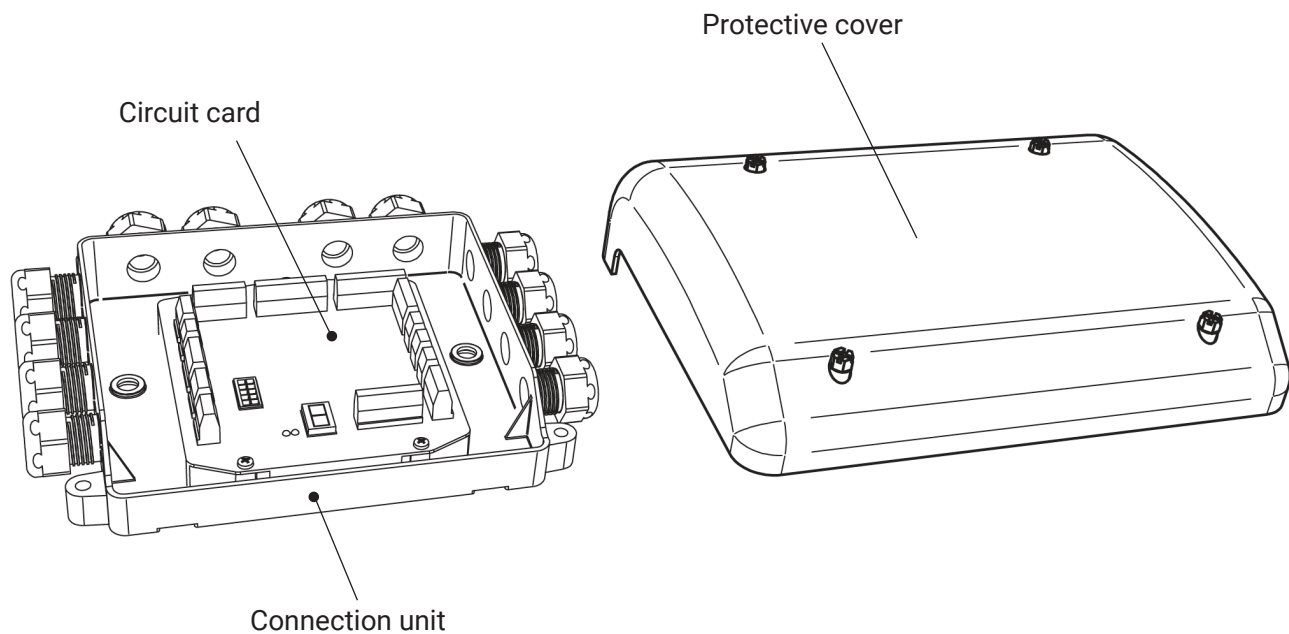

Figure 63. Connection unit
1. Disconnect the cable grommet's protective cover, which is secured with four screws; see Figure 63.